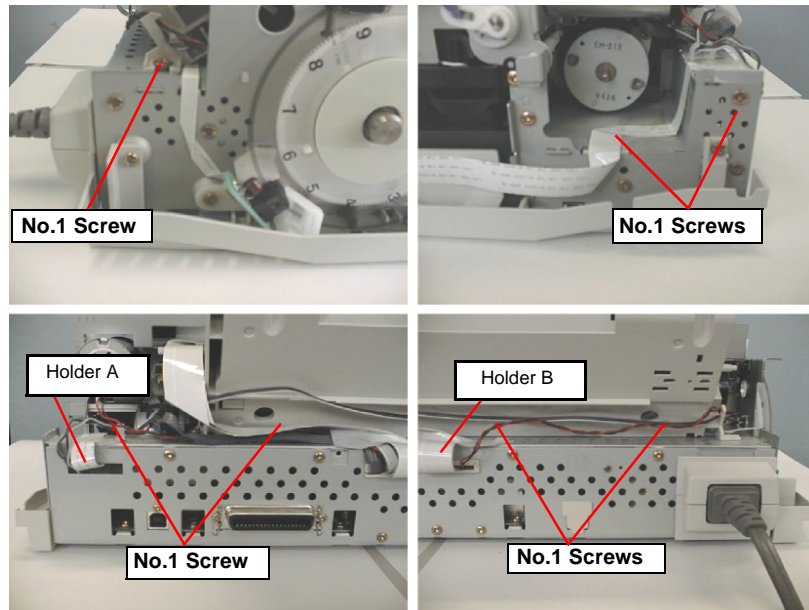

Figure 4-3. Removing the M/B Shield Plate
- 2) Remove the 7 screws(No.1) securing the M/B Shield Plate on the printer mechanism. Refer to Figure 4-3.
- 3) Pull out the “M/B Shield Plate Assembly” a little bit and remove cables which are hung on the A and B holders as you can see in Figure 4-3. Then, take all following cables out of connectors on the main board.